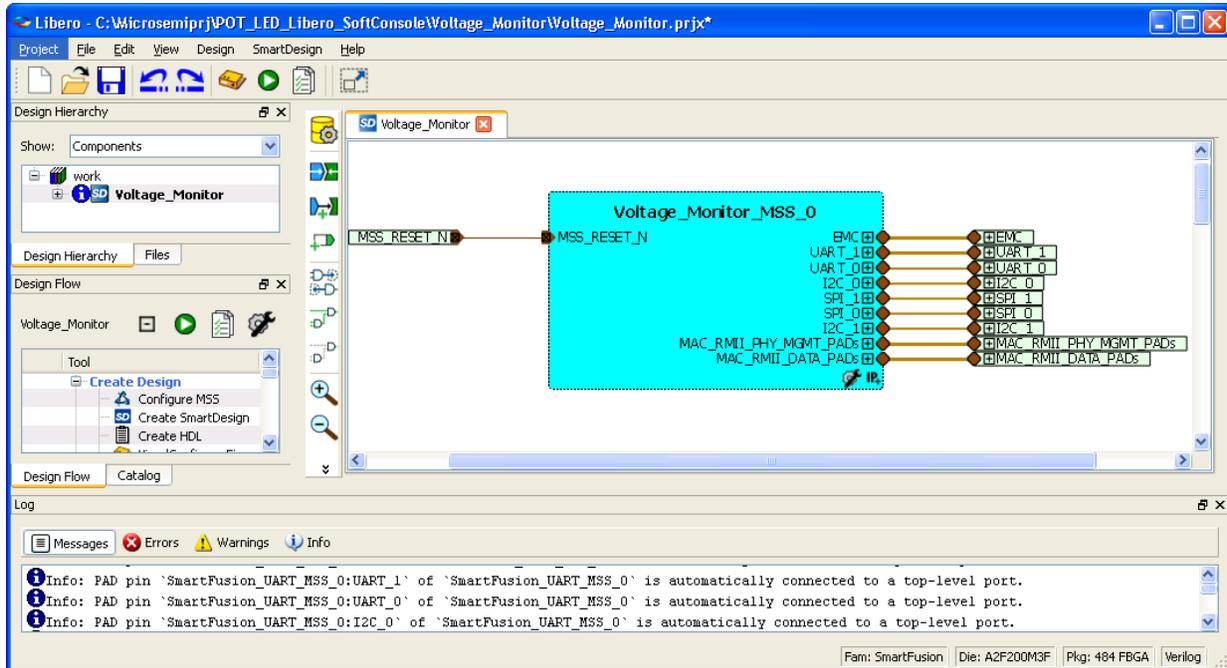

Figure 3 - The Libero Window After Completing New Project Wizard
6. The project is created and the Libero SoC window appears as shown in Figure 3 . . The SmartDesign "Voltage_Monitor" is created with the instantiation of MSS component.